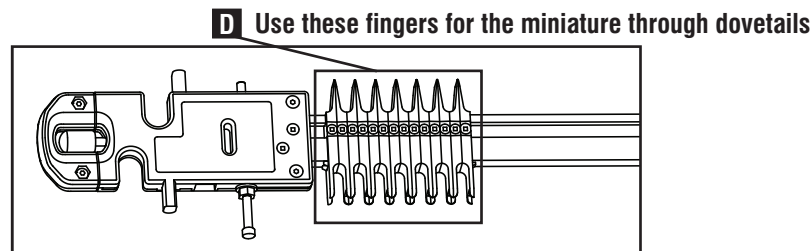

Fig. D3
NOTE: For the miniature variable fingers, the fingers shown at (D) Fig. D3 are the proper fingers for doing through dovetails.